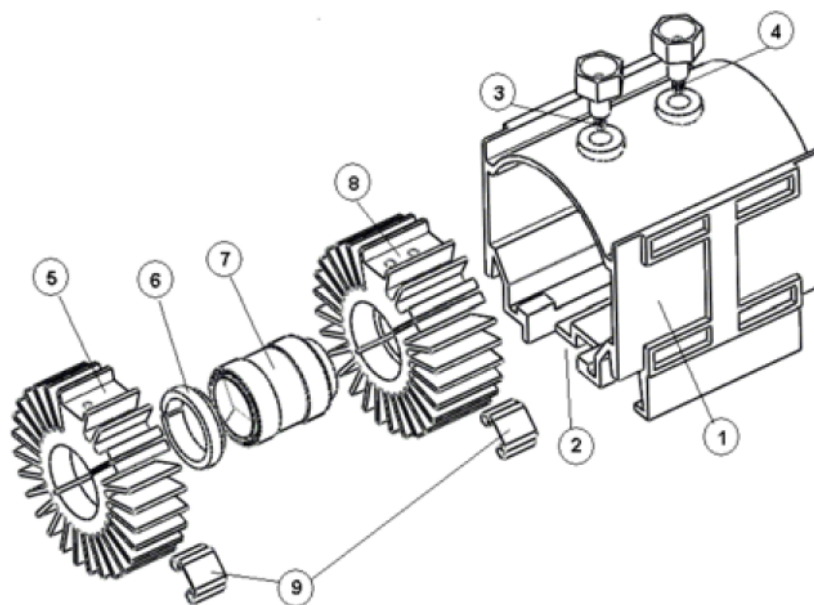

Figure 3-1. Bulb assembly components.
1. Remove both terminals (see Figure 3-1) from the blue housing.
5. The mounting ring (see Figure 3-1) might still be inside the front heat sink. Remove it and set it aside. You will need it if the new bulb does not have one.